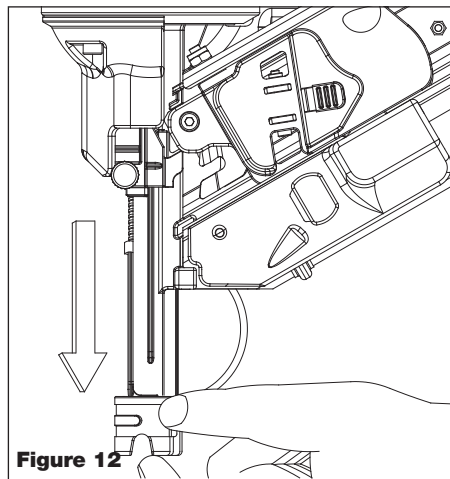

Figure 12
3. Move WCE back and forth to the extent desired. Move the WCE toward the tool to increase nail depth. Move WCE away from tool to reduce nail depth. See Figure 12.